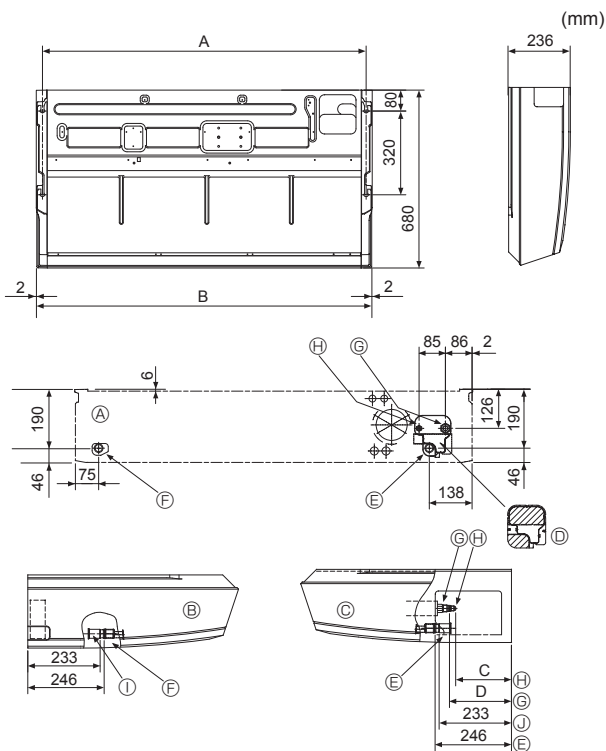

Fig. 3-2
②	Pipe cover	1 pc Large size (For gas tubing)
③	Pipe cover	1 pc Small size (For liquid tubing)
④	Band	4 pcs
⑤	Joint socket	1 pc Marked with "UNIT"
⑥	Socket cover	1 pc
⑦	Drain tubing cover	1 pc
⑧	Wireless remote controller	1 pc
⑨	Remocon holder	1 pc
⑩	Alkaline batteries (size AAA)	2 pcs
⑪	Tapping screw 3.5 × 16	2 pcs
3.2. Preparation for installation (Fig. 3-2)